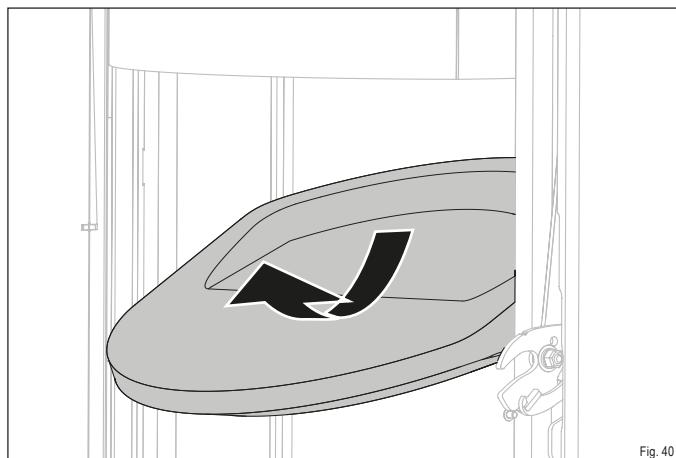

Fig. 40
- Carefully remove the top firebrick from the retainer as shown (Fig. 40).